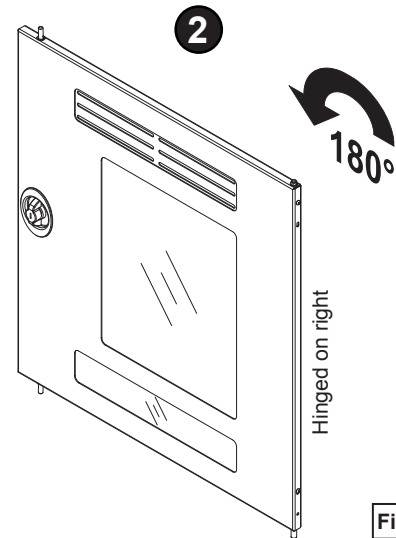

Figure 3C
2. Rotate the door 180°. **Figure 3C.**